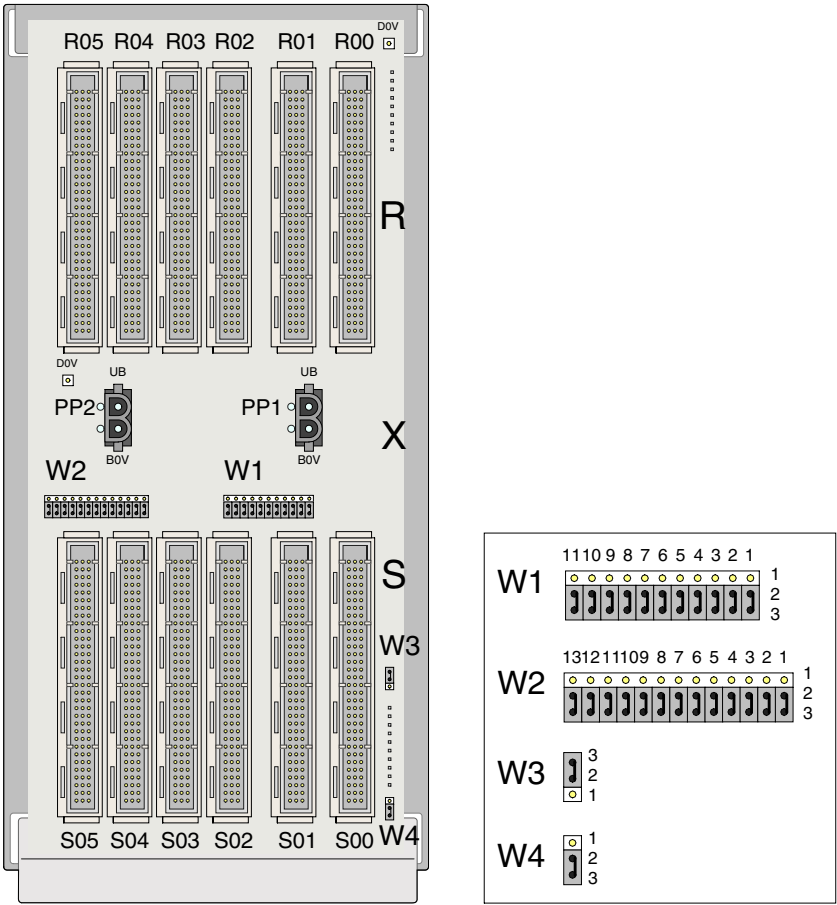

Figure 2. Jumper blocks of cartridge CLOC-B
- Figure 2. Jumper blocks of cartridge CLOC-B **17**